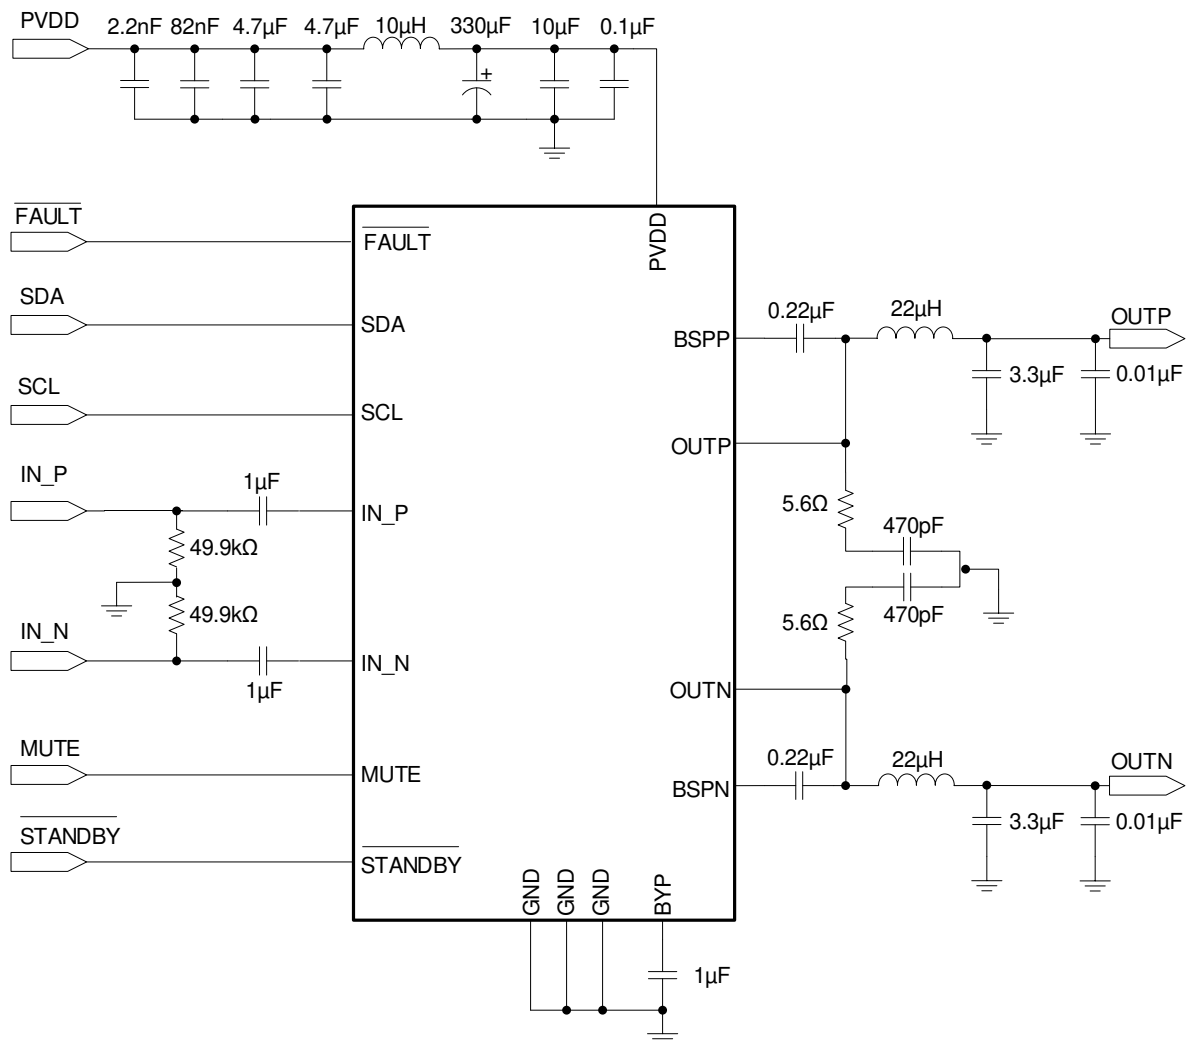

図 8-1. TAS5441-Q1 Typical Application Schematic
The output stage uses dual NMOS transistors; therefore, the circuit requires bootstrap capacitors for the high side of each output to turn on correctly. The required capacitor connection is from BSTN to OUTN and from BSTP to OUTP as shown in 図 8-1.
- Step 1: Hardware Schematic Design: Using the 図 8-1 as a guide, integrate the hardware into the system schematic.